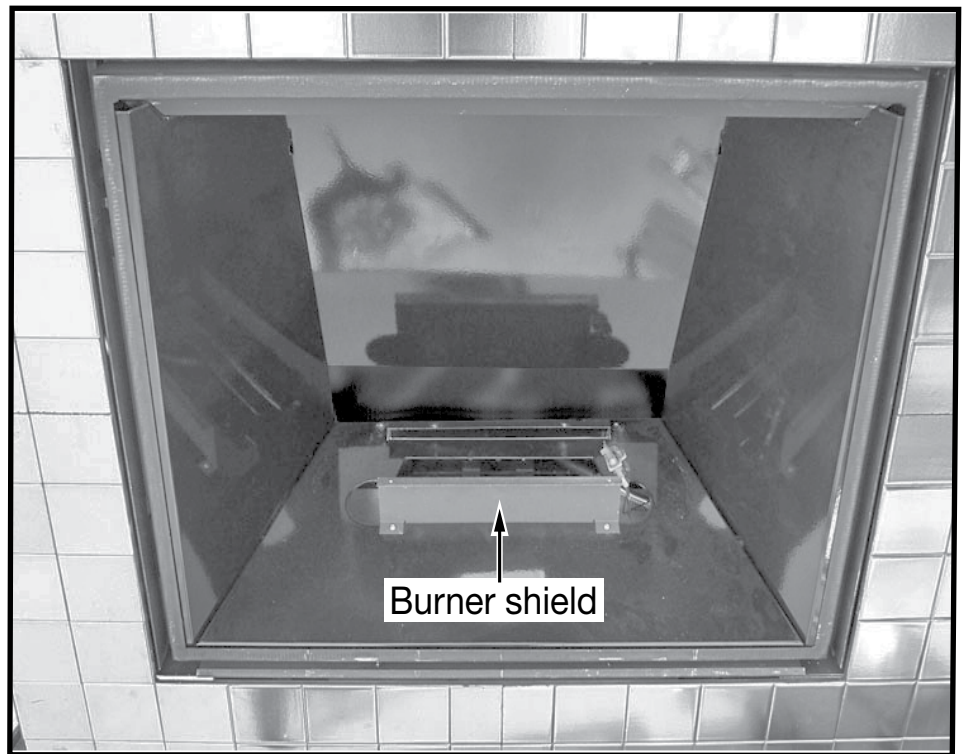

Figure 7: Installing burner shield.
7. Install burner shield by tipping the shield into the firebox, catching the folded edges in the panel clips (Figure 7).